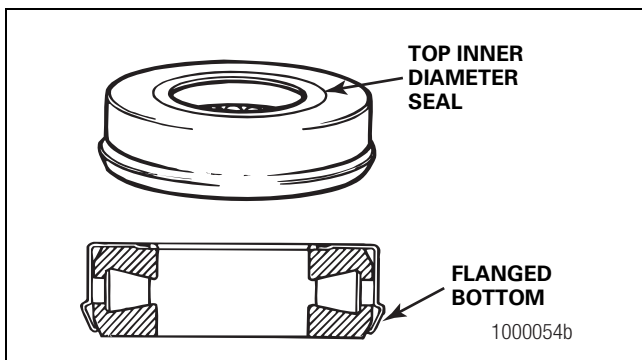
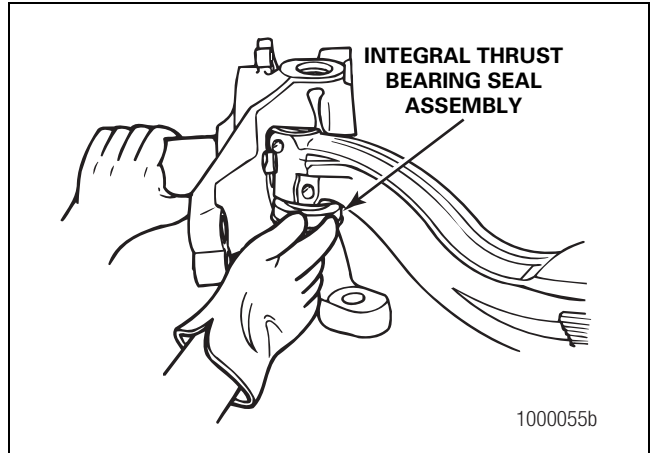

Figure 6.20
Figure 6.21
- Slide the thrust bearing and seal assembly between the bottom knuckle bore and the bottom of the axle beam. The surface with the inner diameter seal must be on the top. The surface with the outer diameter seal must be on the bottom. Figure 6.20 and Figure 6.21.